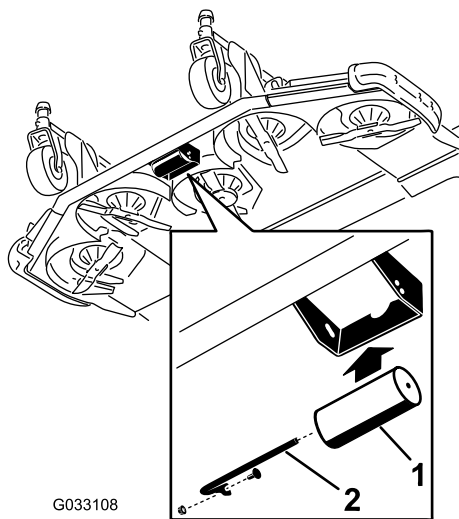

Figure 27
2. Align the roller with the top holes and install the shaft with the screw and nut (Figure 27).